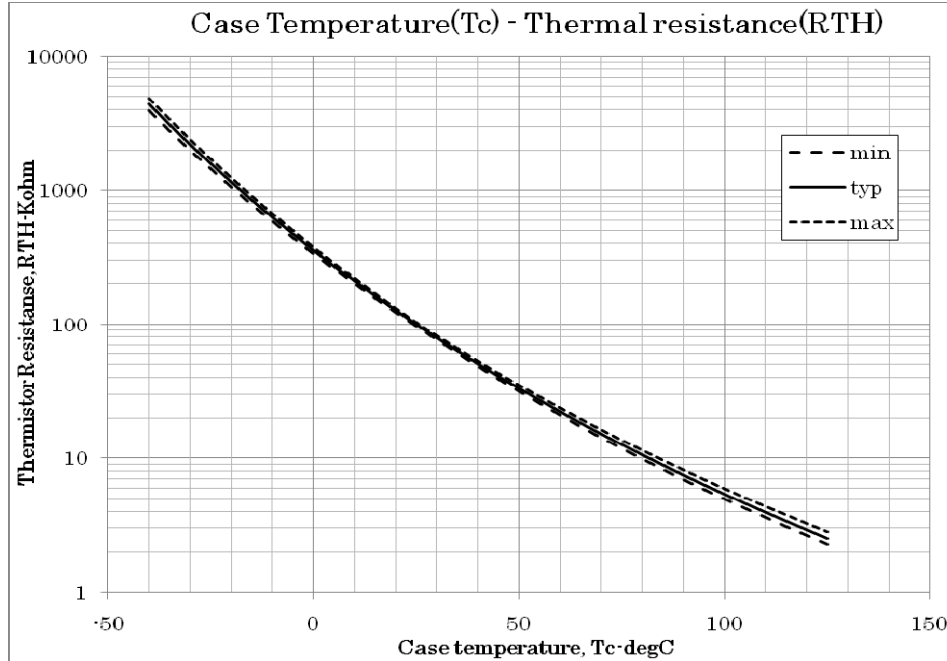
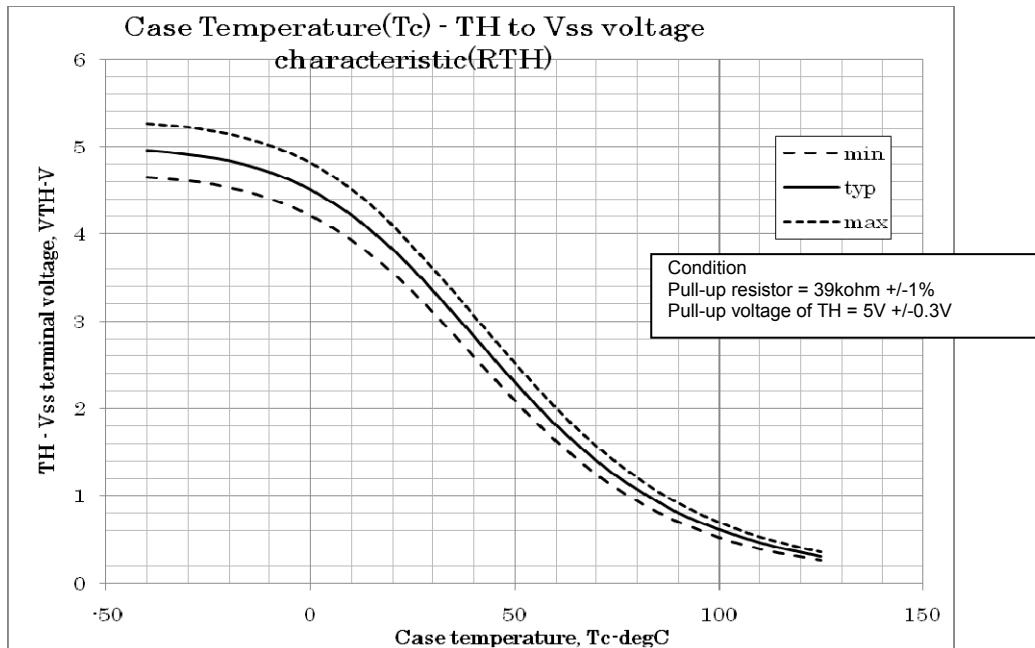

Fig.11 Variation of thermistor resistance with temperature
Fig.12 Variation of temperature sense voltage with thermistor temperature
5. Inside the H-IC, a thermistor used as the temperature monitor for internal substrate is connected between V_{SS} terminal and TH terminal, therefore, an external pull up resistor connected between the TH terminal and an external power supply should be used. The temperature monitor example application is as follows, please refer the Fig.11, and Fig.12 below.